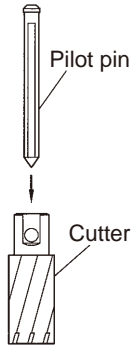

Fig. 11
- Insert a Pilot Pin, appropriate for the cutter size, into the cutter. (Fig.11)